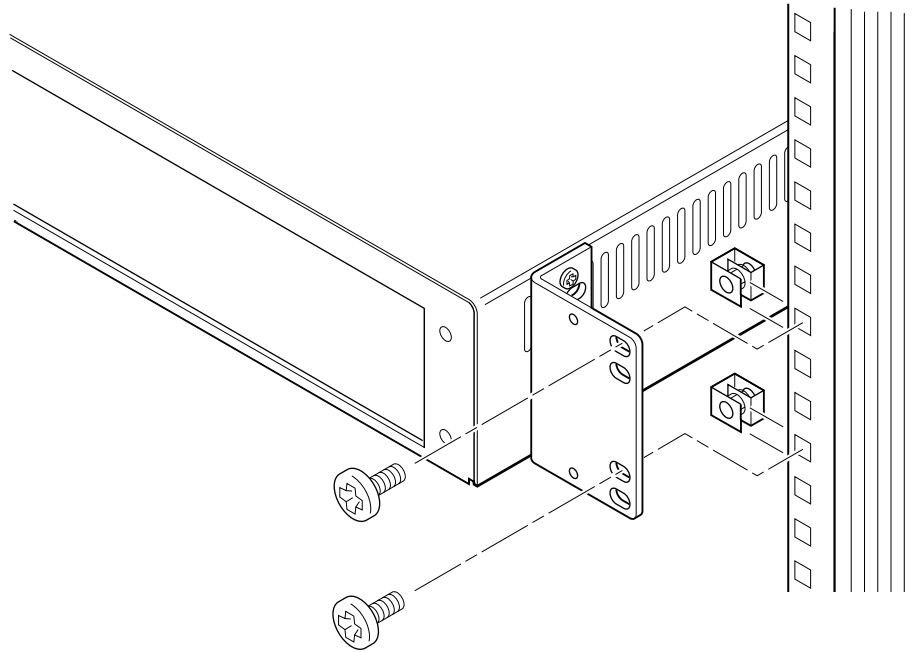

Figure 2-4. Installing Rack Mount Shelf in the Equipment Rack
- 1 Place the rack mount shelf in the position it will occupy in the equipment rack as shown in Figure 2-4.